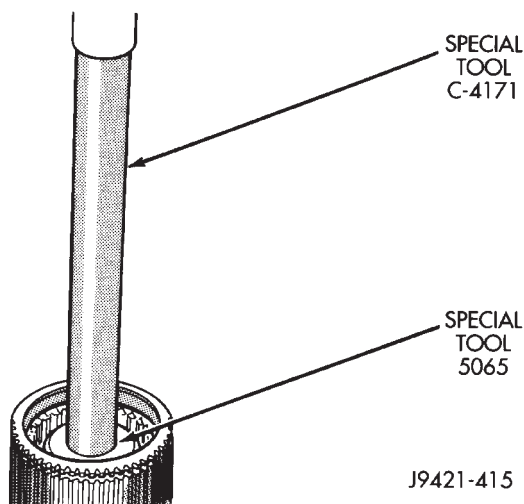

Fig. 48 Installing Needle Bearing In Input Gear
(3) Install new needle bearing in input gear with Driver Handle C-4171 and Installer 5065 (Fig. 48).